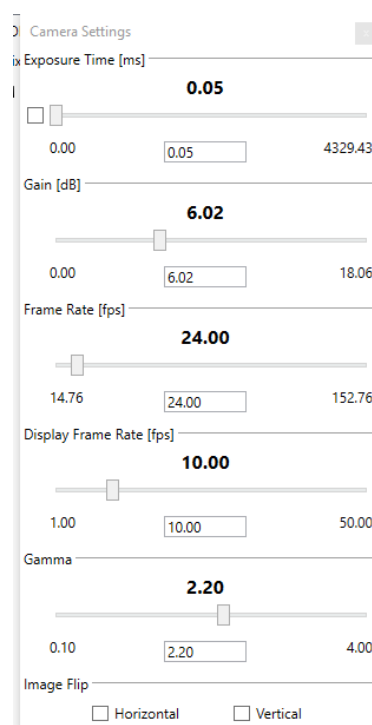

Figure 45 Microscope Settings
- **Settings** - Click on the Settings button to open a new window, see Figure 45